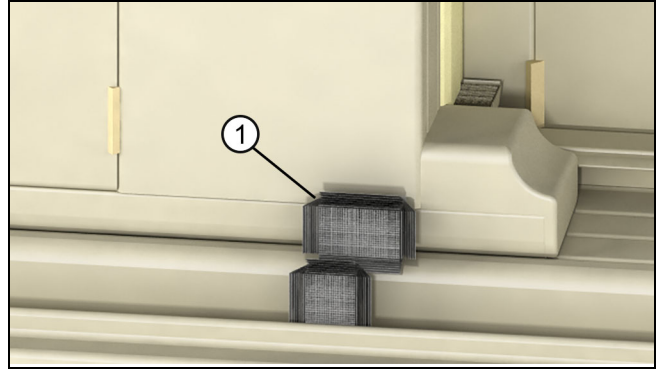

Figure 25
2. Place a dust block horizontally attaching it to the leveling block above the two vertical end cap dust block. See Figure 25.